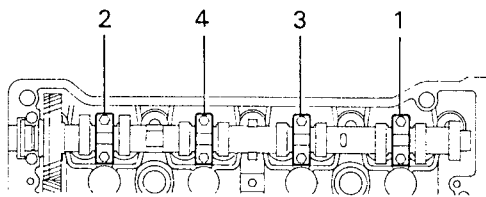

Fig. 1
- Uniformly loosen each bearing cap bolt a little at a time and in the sequence shown in Fig. 1 below.